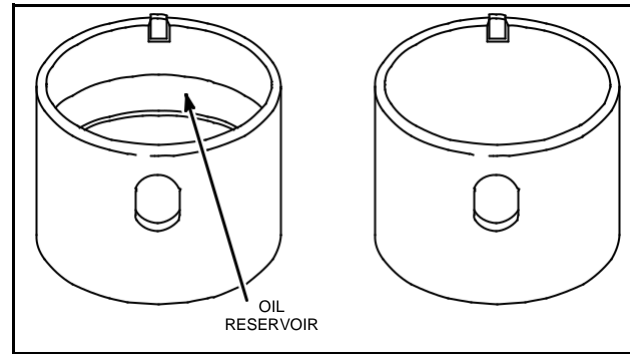

Fig. 11 – Pressure Lube DU Bearing
**NOTE:** Engine models 400440, 402440 404440 and 422440 have a full pressure lubrication system. Engines manufactured before date code 89730000 were equipped with DU bearings with a machined oil reservoir, Fig. 11. Refer to illustrated parts list for correct bearing number by model and date code.